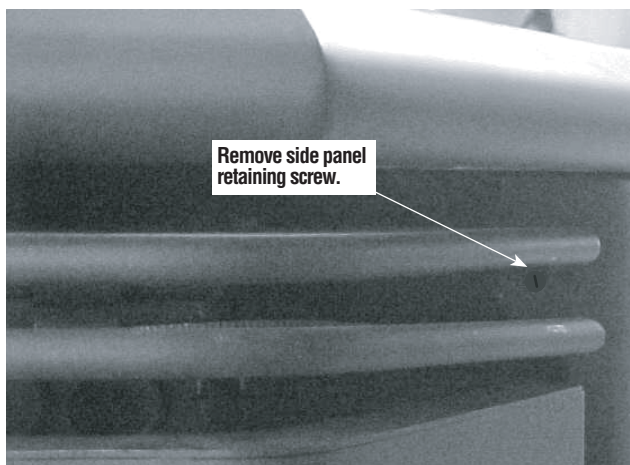

Figure 55 - Opening Side Panels, Profile® 20 FS-2
- 1) Using a 1/4" nut driver remove the screw located at the front top of the panel (see **Figure 55**).